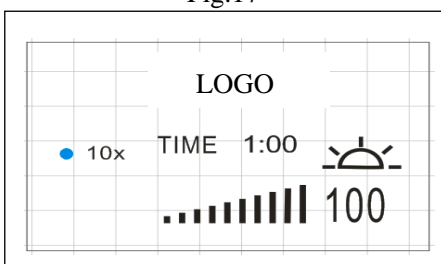

Fig.18
4. **Long press the knob for 3s :** choose to set sleep after the fixed time (Fig18), and the value of minute starts to beat. The value of hours tarts to beat after clicking the knob. The time can be increased or reduced by turning the knob. The increase or decrease of lattice value is 1 minute and the maximum value can be set to 8 hours. After setting to the required time, the time number beats three times and then stops beating, which meaning the setting is successful. Time begins to decrease by minute;